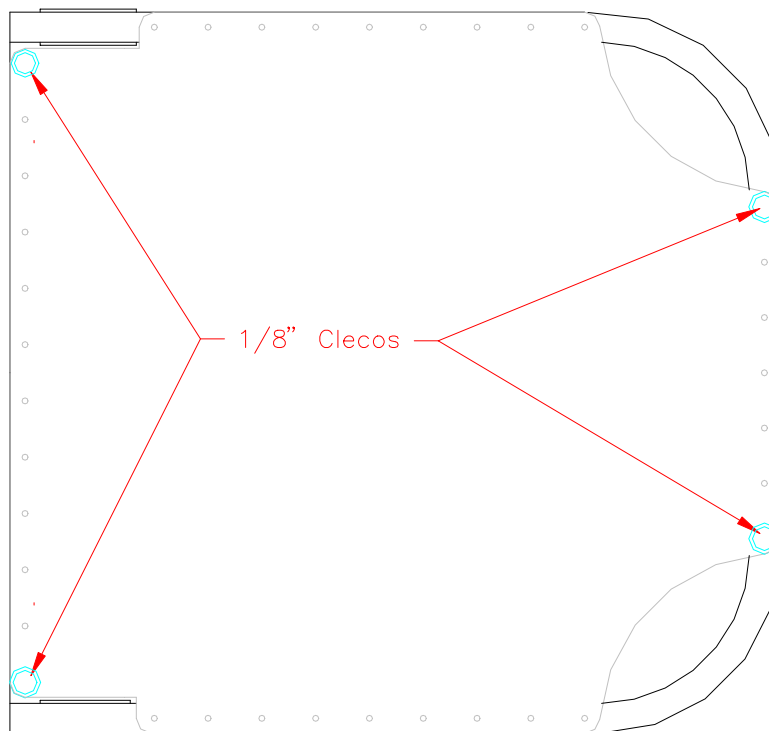

Figure 22.1.4
4) Place a bottom seat panel onto a seat bottom (SA-19) and drill four #30 holes into the seat bottom using SA-28 as a drill guide. Cleco. Figure 22.1.4.